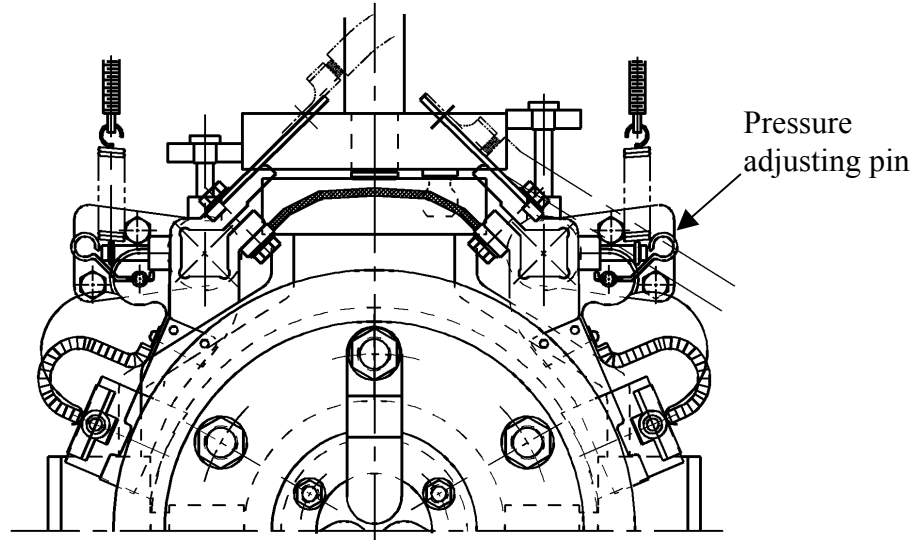

Fig. 15
- The brush pressure may be reduced after use, so it is necessary to re-adjust. For adjustment, please turn adjusting screw, pressure adjusting pin or pressure adjusting plate as shown in Fig.15 to obtain the correct tension ($=0.23 \times \text{brush cross sectional area in cm}^2$) ±10% kg.